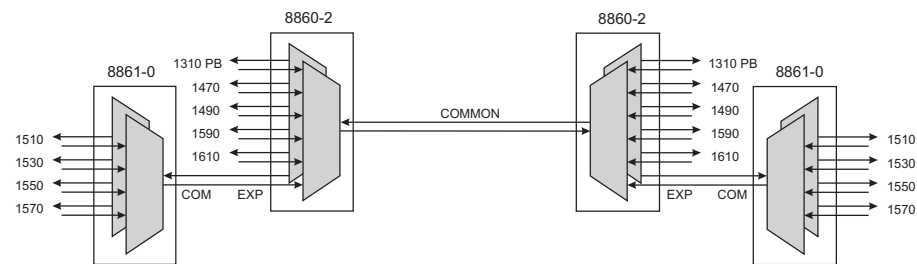

Figure 5: Two Cascaded 4-Channel MUX/DEMUX
The Expansion Port (EXP) enables the cascading of two CWDM/X modules as shown in Figure 5, supporting a variety of cascading combinations (4+4, 8+4, 8+8). The
- When cascading two 4 or 8-Channel CWDM/X modules, connect a single-mode, dual fiber duplex LC cable between the Common Port on one CWDM/X module and the Expansion Port on the other CWDM/X module (see Figure 5). Ensure that the transmit (Tx) is attached to the receive side of the device at the other end, and the receive (Rx) is attached to the transmit side.